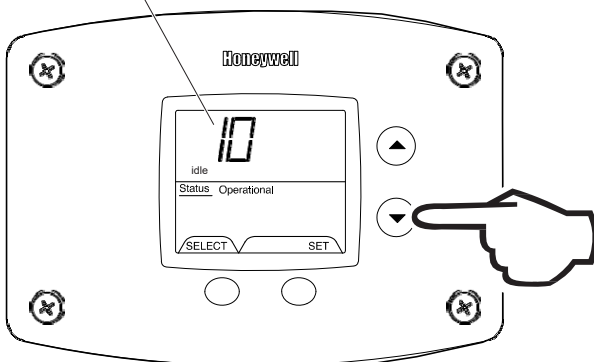

Fig. 76
2. Press the "Temperature Down" button to select the error code index, starting with the most recent error code '10' (Fig. 76).